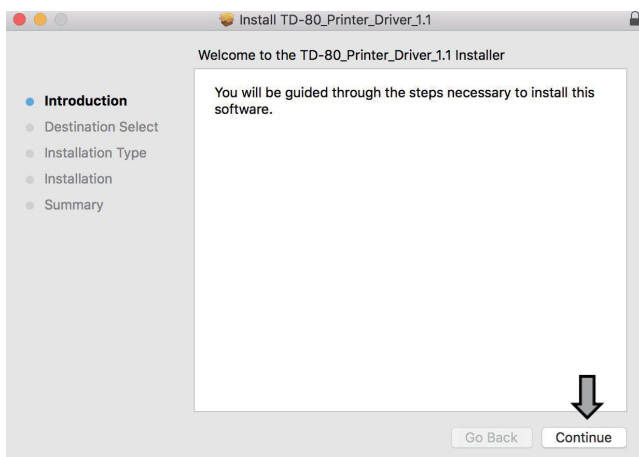

Fig.2
- ② Open the printer driver installation interface, click "Continue" (see Figure 2).